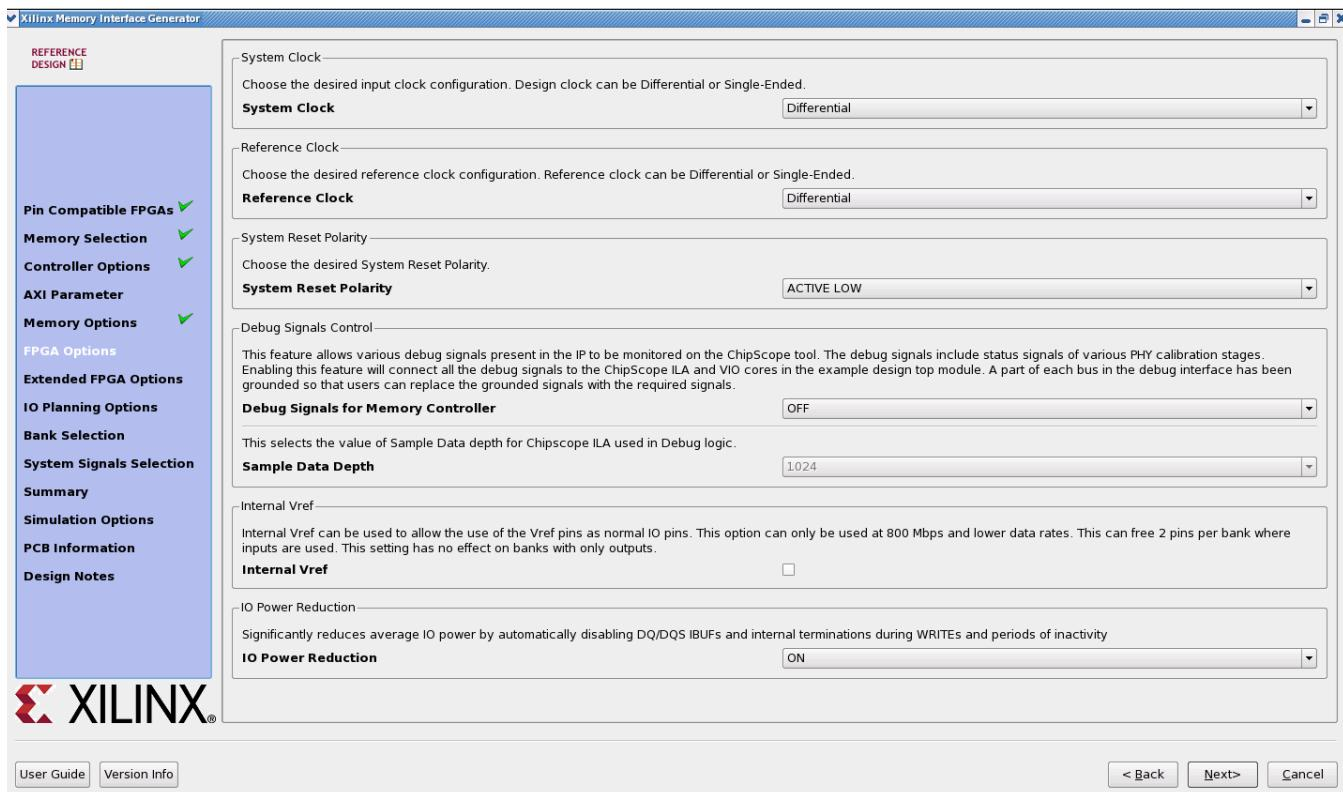

Figure 4-21: **FPGA Options**
Figure 4-21 shows the **FPGA Options** page.
- **sys\_clk** – This is the system clock input for the memory interface and is typically connected to a low-jitter external clock source. Either a single input or a differential pair can be selected based on the **System Clock** selection in the **FPGA Options** page (Figure 4-21). The sys\_clk input must be in the same column as the memory interface. If this pin is connected in the same banks as the memory interface, the MIG tool selects an I/O standard compatible with the interface, such as DIFF\_SSTL12 or SSTL12. If sys\_clk is not connected in a memory interface bank, the MIG tool selects an appropriate standard such as LVCMOS18 or LVDS. The XDC can be modified as desired after generation.
- **clk\_ref** – This is the reference frequency input for the IDELAY control. This is a 200 MHz input. The clk\_ref input can be generated internally or connected to an external source. A single input or a differential pair can be selected based on the **System Clock** selection in the **FPGA Options** page (Figure 4-21). The I/O standard is selected in a similar way as sys\_clk.
- **sys\_rst** – This is the system reset input that can be generated internally or driven from a pin. The MIG tool selects an appropriate I/O standard for the input such as LVCMOS18 and LVCMOS25 for HP and HR banks, respectively. The default polarity of sys\_rst pin is active-Low. The polarity of sys\_rst pin varies based on the **System Reset Polarity** option chosen in **FPGA Options** page (Figure 4-21).